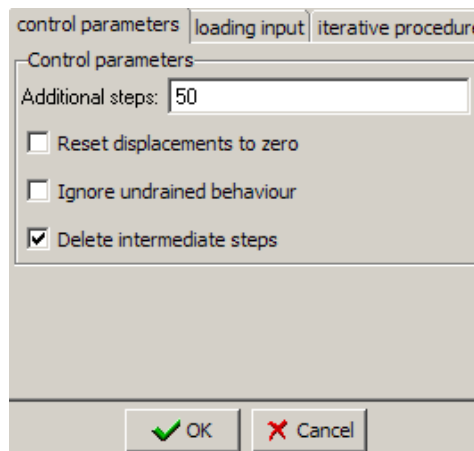

Figure 1.17 The *Parameters* window
- Double click the *Parameters* option to open the *Parameters* window (see Figure 1.17). Change the number of additional steps to 50.